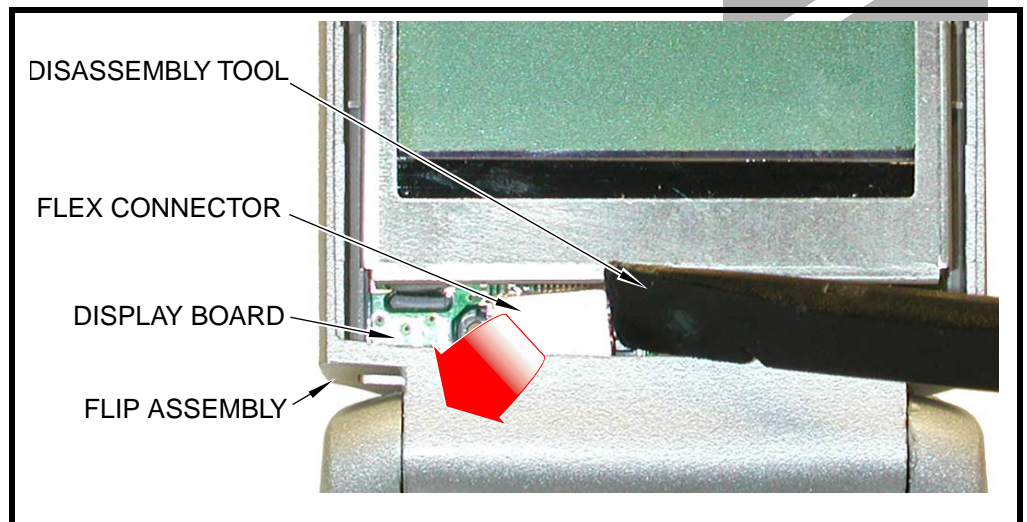

Figure 20. Disconnecting the flex from the display board assembly
2. Carefully work the flat end of the disassembly tool under the flex connector and remove the connector from the display board as shown in Figure 20.